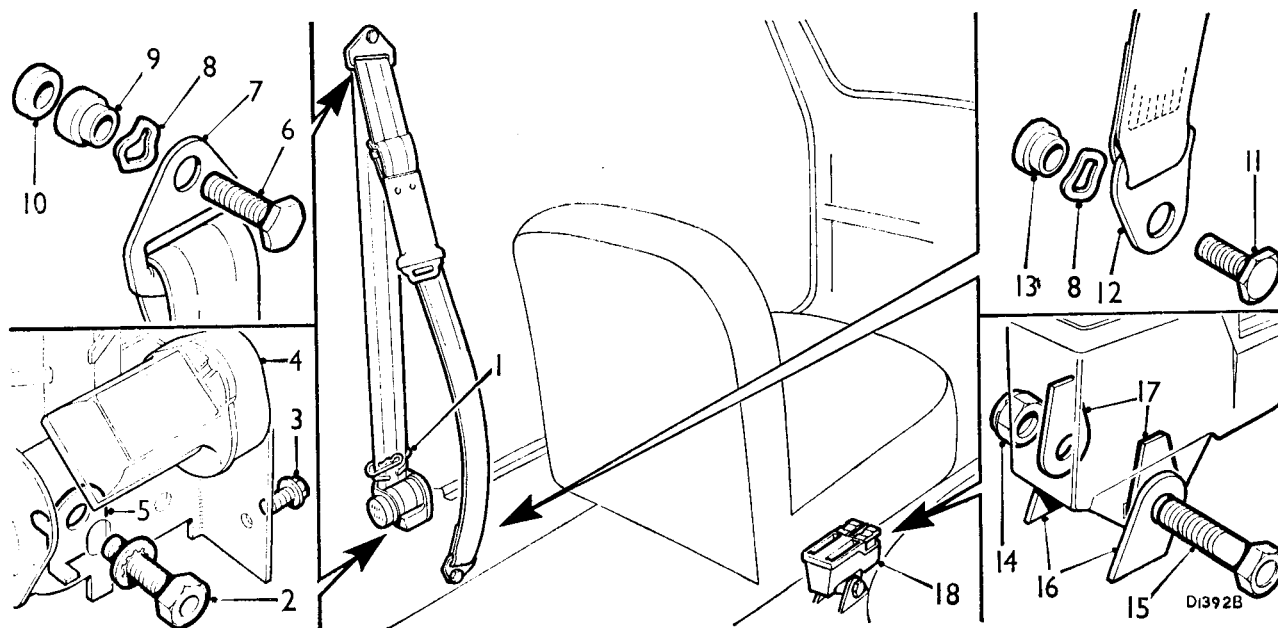

Fig. Rb.11
1. Before removing any belt fixings, attach a clip (1) to the belt just above the reel assembly to prevent the belt retracting during removal and storage. The clip (1) must not be removed until the belt assembly has been refitted, see Fig. Rb.11.
2. Withdraw most of the belt webbing from the reel and remove the locking unit retaining screw (3). Lift up the locking unit (4) to expose the reel retaining screw (2). Remove the screw (2) and detach the reel and locating bracket (5), see Fig. Rb.11.
3. Remove the screws retaining the belt brackets to the door pillar and sill. Note the assembly sequence of the distance pieces and anti-rattle washers, also the individual lengths of the fixing screws, see Figs. Rb.11 and Rb.12.
Britax: Note that a fibre washer (17) is fitted on either side of the console and is located between the central console and the mounting strap, see Fig. Rb.11.
- d. The reel assembly, belt brackets and central console must be refitted with the relevant component parts assembled in the order shown in Figs. Rb.11, Rb.12, Rb.13, and Rb.14.
- h. Tighten the reel locking unit retaining screw (3) Fig. Rb.11 to a torque figure of 5 lb. in. (.06 kg. m.).